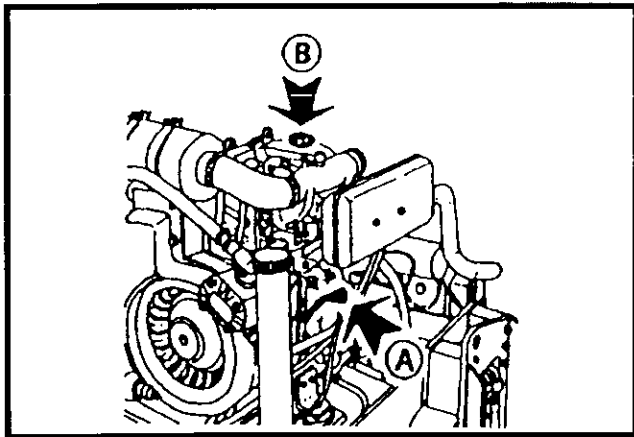

Figure 4-2 Engine Oil Dipstick and Filler
7. Check engine oil level on dipstick ('A', Figure 4-2). If required, add motor oil through filler ('B', Figure 4-2) to bring to Full level on dipstick. Refer to Section 8 - Fuel and Lubricant Specifications. If no oil is showing on the dipstick, call for service assistance to investigate the cause of oil loss.